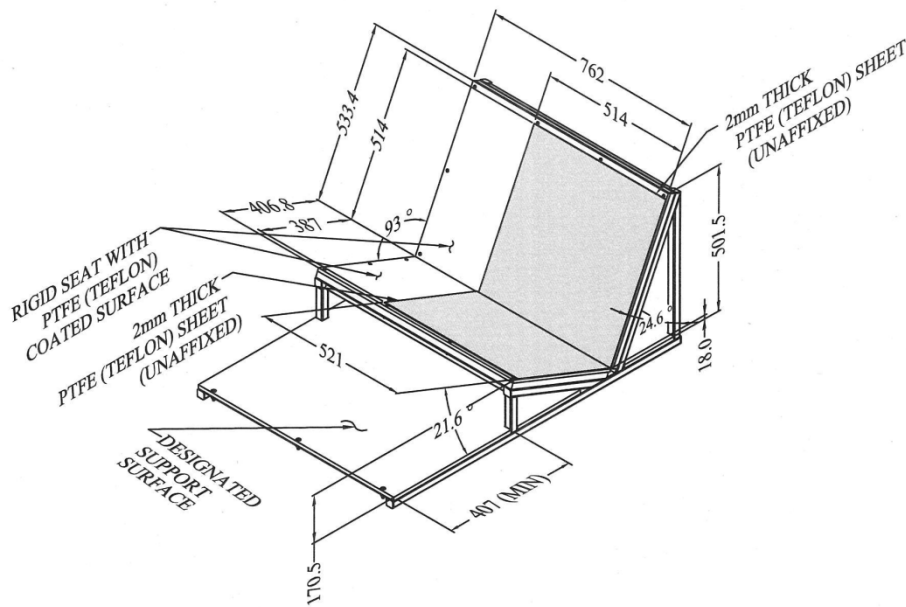

Figure 61. Qualification bench seat specifications for Q3s qualification tests
- Place the qualification bench¹⁸ (Figure 61) in the probe's impact area so that the dummy can be impacted in the shoulder.